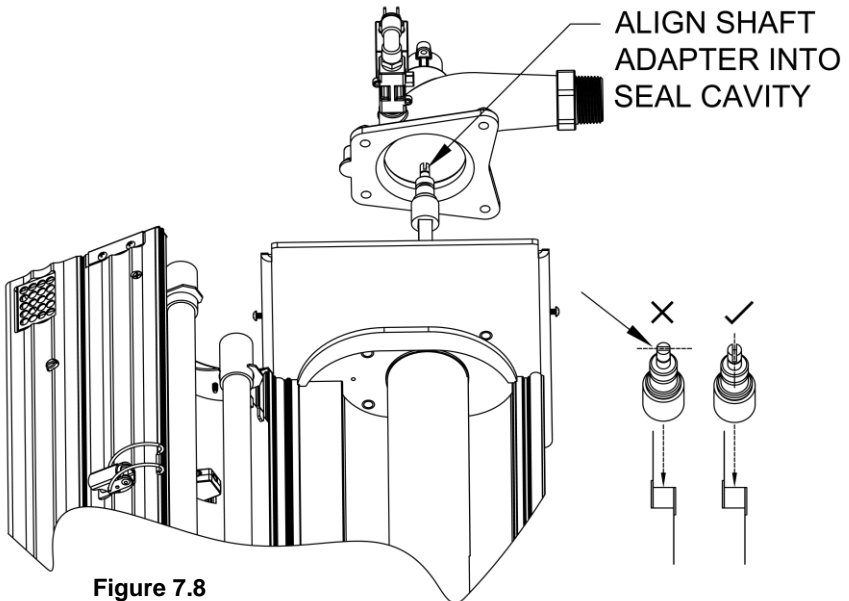

Figure 7.8
**Step 3:** Once the quartz sleeve is clean, reassemble the unit (see Figure 7.8). Replace any seals that appear to have been damaged.
**Step 2:** Ensure the quartz O-ring seal is in place around the quartz sleeve and then replace the top manifold by aligning the shaft adapter into the seal cavity of the top manifold (see Figure 7.8).